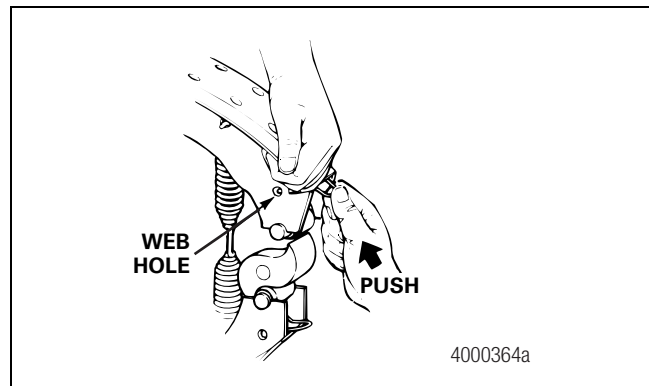

Figure 3.22
6. Push the brake shoe roller retainer into the brake shoe until the ears lock into the shoe web holes. Figure 3.22.